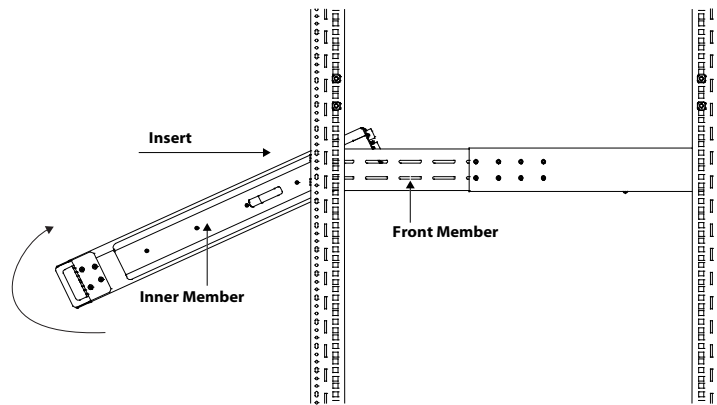

Figure 14: Insert the UPS
9. Insert the UPS, with inner members attached, into the slide rail assemblies by inserting the top and bottom edges of the inner members into the top and bottom curved tracks of the front members. Slide the UPS into the rack as shown in Figure 14.